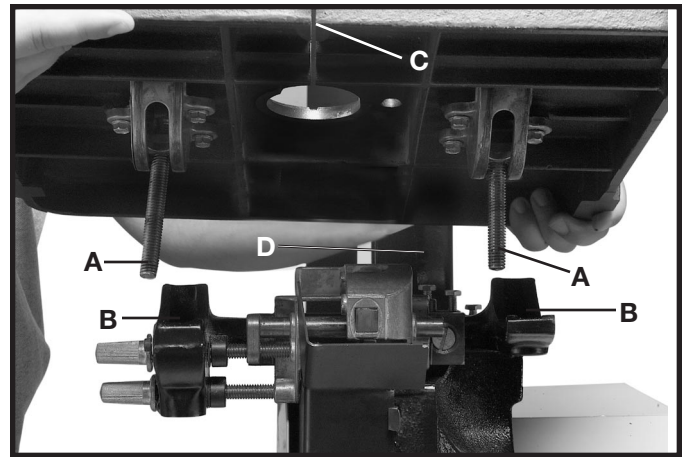

Fig. 27
1. Align the two table studs (A) Fig. 27, on the bottom of the table, with the two holes in the trunnion assemblies (B). Place table on trunnion assemblies. **NOTE: MAKE SURE THE SLOT (C) FIG. 27, IN THE TABLE IS FACING AWAY FROM THE ARM (D).**